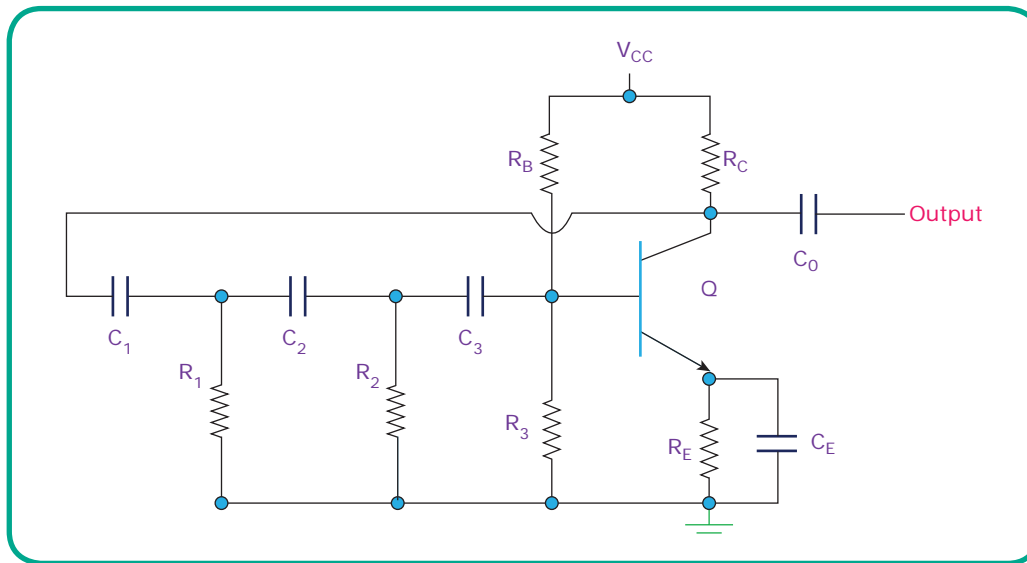

Figure 7.7 RC Phase Shift Oscillator Using BJT
**Construction:** Figure 7.7 shows the circuit of phase shift oscillator. It consists of transistor amplifier and 'RC' phase shift network. The phase shift network has three sections  $R_1C_1$ ,  $R_2C_2$  and  $R_3C_3$ . At some particular frequency  $f_o$ , the phase shift in each 'RC' section is  $60^\circ$  so that the total phase-shift produced by the three RC network is  $180^\circ$ .